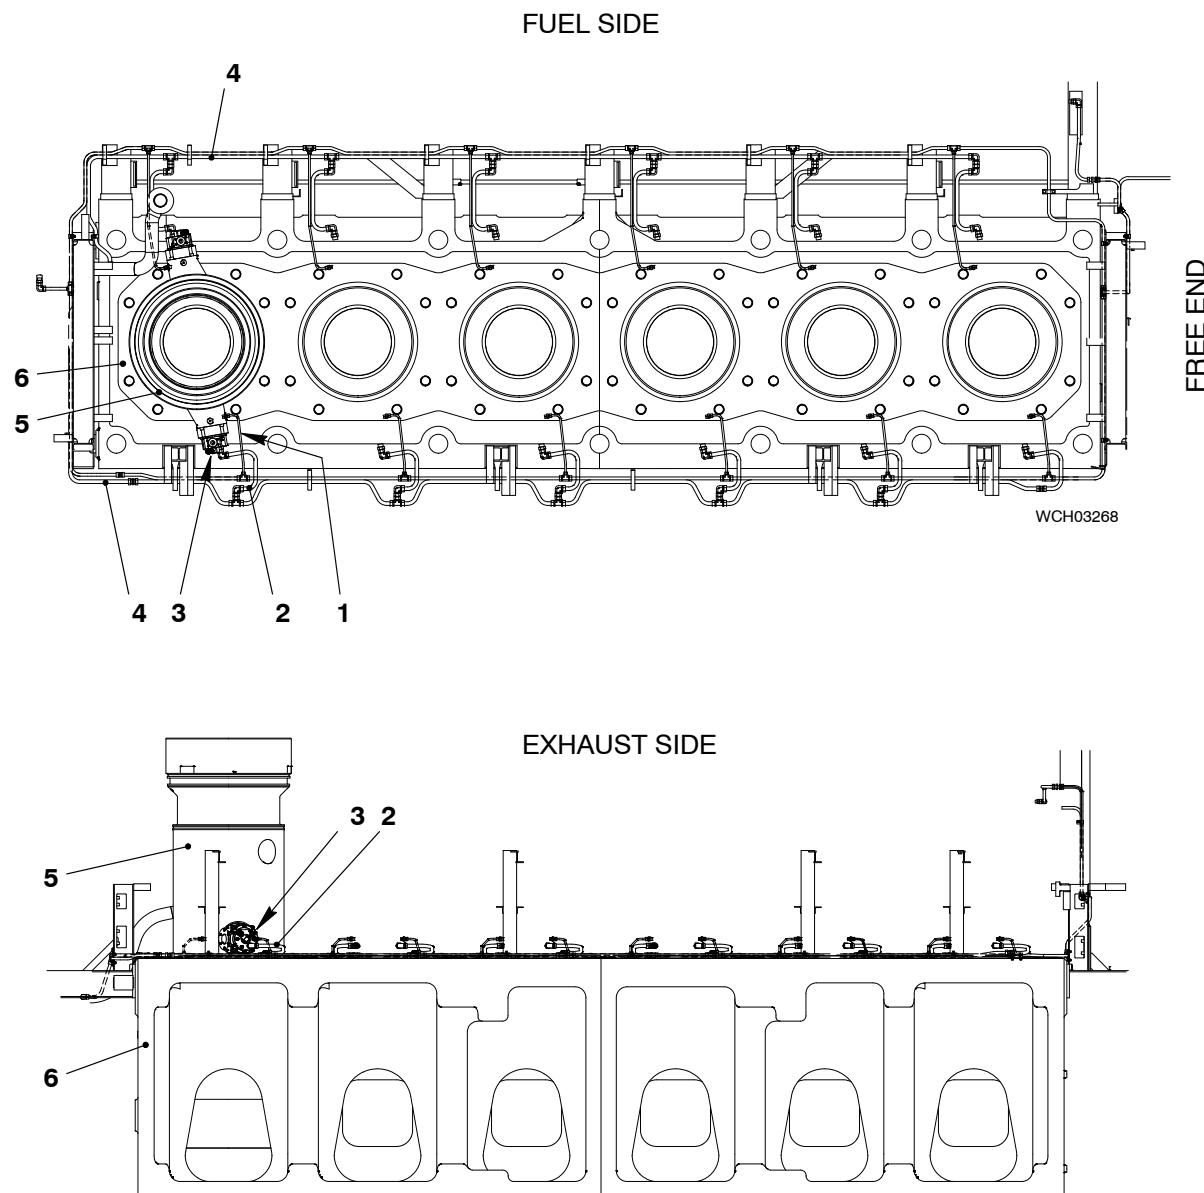

Fig. 4: Servo Oil Connections (Lubrication and Oil Seal)
The servo oil drains through the servo oil drain (11) to the main leakage collector (31, Fig. 4) to the plant.
Servo oil from the servo oil system lubricates the GAV (3, Fig. 4). The servo oil flows through the pressure reducing valve 90–8492_E0_2 (see 4003–2 Page 2) on the servo oil rail into the servo oil supply pipes (1).
The servo oil drains through the oil return pipe (2) to the servo oil drain pipe (4, Fig. 4).